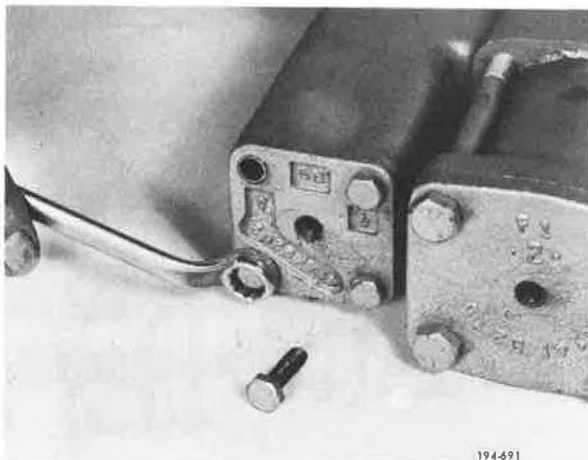

Figure 5-767. Removing Capscrews
3. Remove reverse shift cover capscrews. See Figure 5-767.